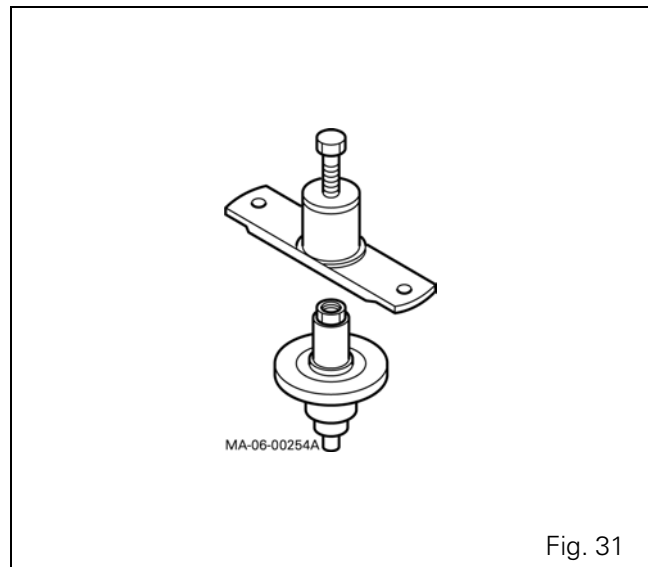

Fig. 31
- 3378117M1: Shimming tool (Fig. 31)